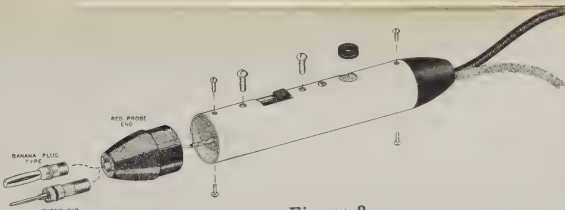

Figure 3
- () Now slip the completed switch-trimmer assembly into the probe body and secure the switch with two 4-40 screws. Secure the black probe end with two 2-56 self-tapping screws. Be sure the ends of the shielded lead and flat braid are between the black probe end and the probe body, to provide a ground connection for the probe body. The "flat spot" on the probe end will provide the necessary clearance. (Refer to Figure 3.)